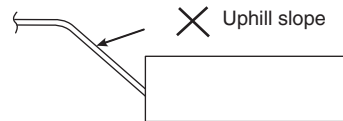

Fig. 3-9
- Do not install the pipe with an upward gradient from the connection port. This will cause the drain water to flow backward and leak when the unit is not operating. (Fig. 3-9)